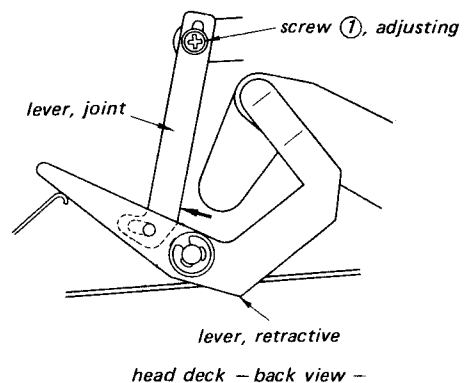

Fig. 11-7 Pinch roller stroke adjustment
- (3) Fix the screw ① while pushing the joint lever in the direction shown with arrow in Fig. 11-7.
- (4) Put the dummy capstan \times into the capstan bearing and be sure that the pinch roller shaft moves by approx. 3~4 mm (1/8 ~ 5/12") on the surface of the retractive lever when the function selector knob is changed from STOP to FWD.
- (5) Be sure that the washer for the pinch roller shaft does not come in contact with the part indicated with \blacktriangle on the retractive lever when the function selector knob is changed slowly from FWD to FF.
- (6) After the adjustment, apply lock paint to the screw.